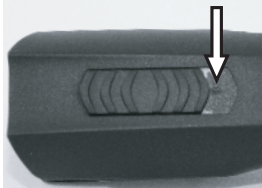

Fig. 4 Switch in OFF-position ("0")
1. Test the contacts of the clipper (1) and the battery (2) for foreign particles and contamination.
2. Assure, that the switch lever of the clipper is in OFF-position ("0") (fig. 4).
3. Insert the battery (2) in the clipper (3), until the battery interlock (1) is engaged on both sides.
4. Insert the clipper with the inserted battery (1) or insert just the battery (2) from above without force into the charging recess provided on the charging station.
6. Battery is charging. During the charging time the control light is illuminating red (3). As soon as the battery has been charged to a min. 90%, the indicator lamp will change to green and the charging station switch to "trickle charging".
7. Hold the charger firmly with one hand and pull the clipper (1) or the battery (2) out with the other.
1. Move the switch to position "0" (fig.4).
2. Push the battery interlock (2) on both sides inward and pull the battery (1) out of the clipper.
3. Insert charged battery (1) into the shearer (2), until the battery lock is locked in on both sides.